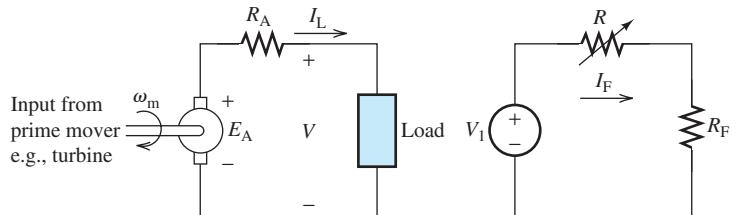

FIGURE 13.29 Equivalent circuit for a separately excited DC generator.
As its name suggests, with this generator there are two separate sources of voltage, one for the armature circuit and the other for the field circuit. As shown in Figure 13.29, in a separately excited DC generator, a prime mover creates the rotational movement of the generator at an angular velocity of ω_m . Induced armature voltage (i.e., the back-emf E_A) generates current flow through the load. Here, I_L and I_F are the load and field currents, respectively. Figure 13.29 (right side) shows the field circuit in which V_1 is the field voltage, and R_A , and R_F are armature and field resistances, respectively. The voltage across load is represented as V . E_A is the emf generated by the prime mover and R is the variable resistance inserted to control the flux generated, and therefore the load voltage.
- Considering Figure 13.29: